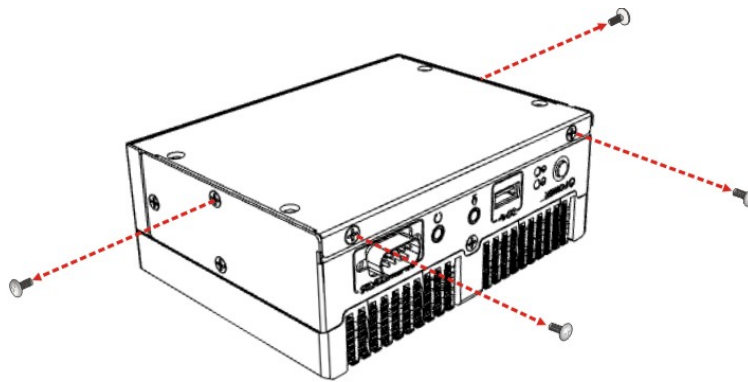

Figure 3-1: Bottom Surface Retention Screws
Step 1: Remove the bottom surface retention screws. The bottom surface is secured to the chassis with four (4) retention screws (**Figure 3-1**). All four (4) screws must be removed.